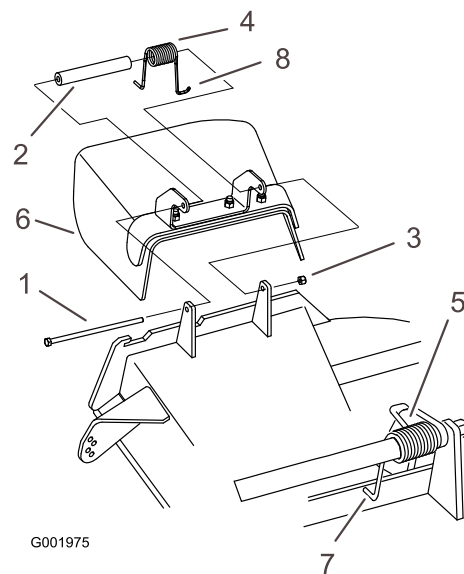

Figure 71
- Remove the locknut, bolt, spring and spacer holding the deflector to the pivot brackets (Figure 71). Remove damaged or worn grass deflector.
Note: Make sure the **L** end of spring is installed behind deck edge before installing the bolt as shown in Figure 71.
- Install bolt and nut. Place the **J** hook end of spring around grass deflector (Figure 71).